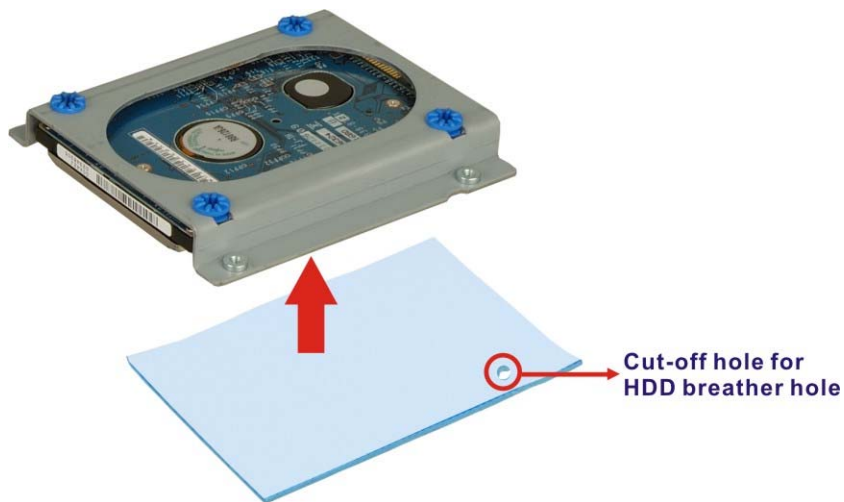

Figure 4-10: HDD Thermal Pad
Step 7: Adhere the thermal pad to the HDD. Make sure there is no obstacle covering the breather hole (**Figure 4-10**).